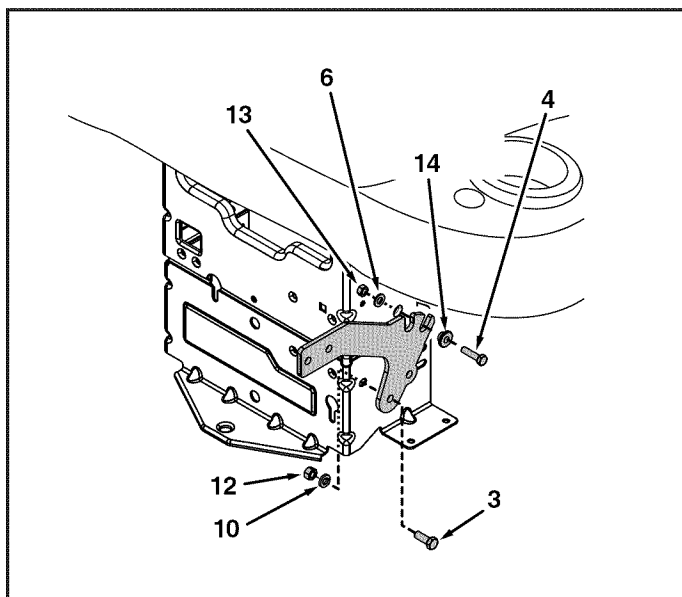

FIGURE 2
3. Assemble bottom of two weight bracket arms (2a) to sides of drawbar using two 3/8-16 x 1" hex bolts (3), 3/8" lock washers (10) and 3/8-16 hex nuts (12). See figure 2.
4. Assemble top of two weight bracket arms (2a) to sides of drawbar using front notches in arms. Use two 5/16-18 x 1-1/4" hex bolts (4), step bushings (14), 5/16" washers (6) and 5/16" lock nuts (13). See figure 2.